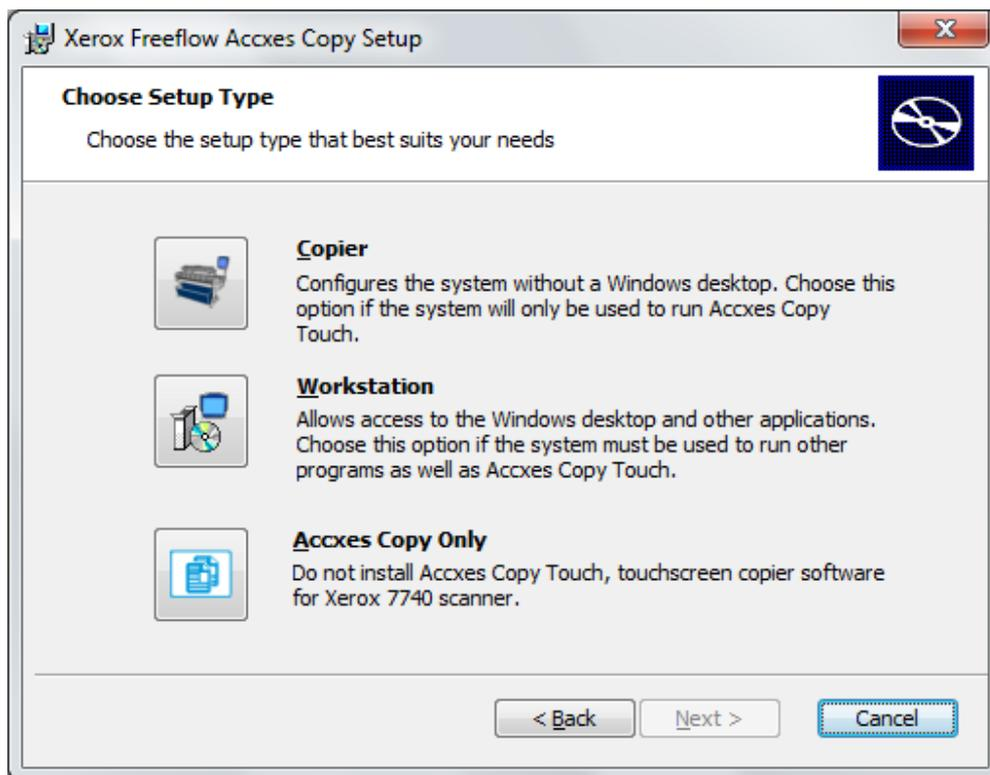

Fig 1-1
Three installation options will be displayed (Fig 1-1). Each option is explained overleaf.
5. Select the required installation option displayed in Fig 1-1 and click [Install]